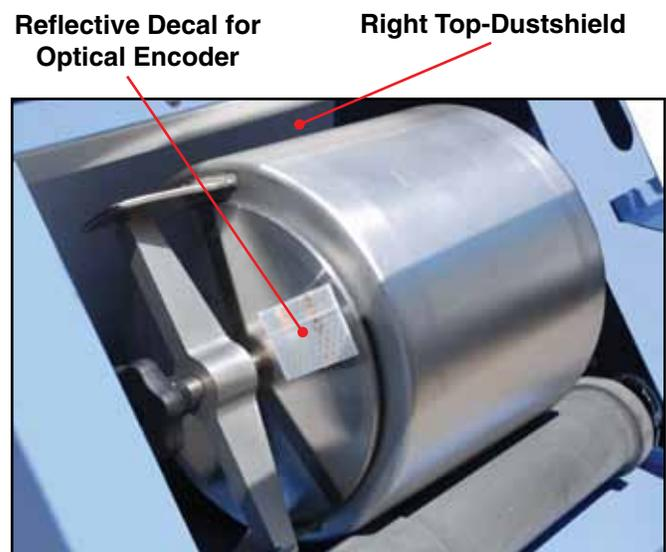
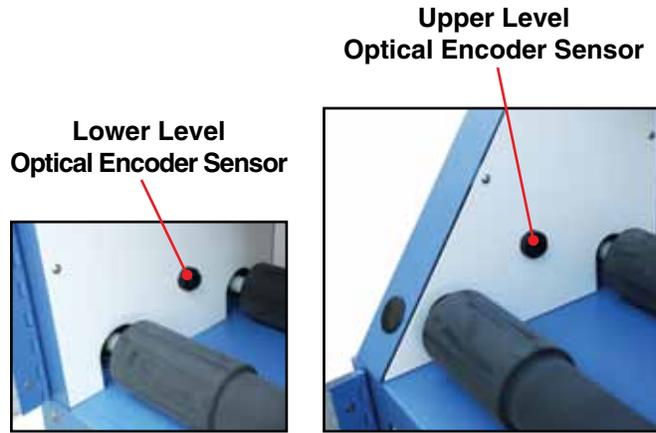

Figure 3
Figure 4
The MD-2000 jars, steel balls and magnetic pickup tool are packed in a separate box. Inspect for external and internal damage of these items in the same manner as for the instrument cabinet. Look specifically for possible damage to the encoder decals on the jar lids (see Figure 3). The optical encoder (see Figure 4) may not function properly if these decals are damaged. Make damage claims immediately to the freight carrier.
NOTE: DO NOT block the light path to the encoder (see Figure 4).
5. Place the jar on its side on the roller set with the clamping end facing the optical encoder (see Figure 4).
6. Remove the 3 Phillips screws holding the right top-dustshield panel (see Figure 3). Tilt and remove. It may be difficult to move past the lock fastener holding the hinge. It may be necessary to remove the screw in this fastener if it protrudes too far.